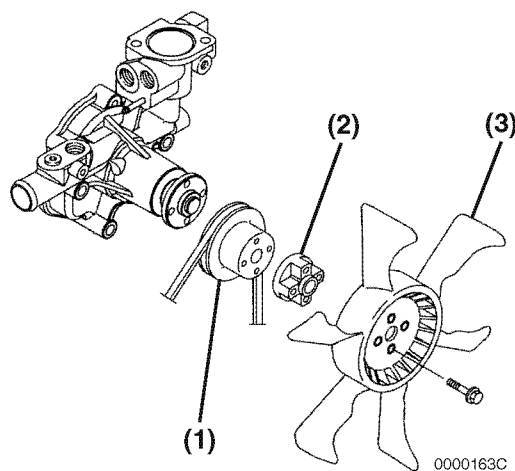

Figure 9-12
6. Install the engine coolant pump V-pulley **(Figure 9-12, (1))**, spacer **(Figure 9-12, (2))**, engine coolant fan **(Figure 9-12, (3))** and engine coolant fan guard (if equipped).